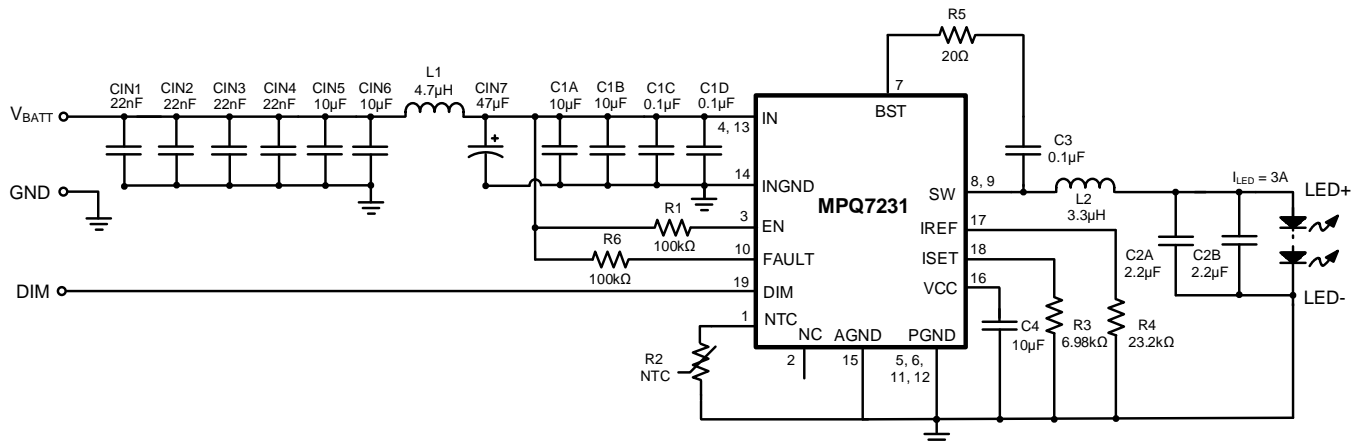

Figure 10: Typical Application Circuit ($I_{LED} = 3A$ Buck)
17) The recommended layout is based on Figure 10 on page 46.